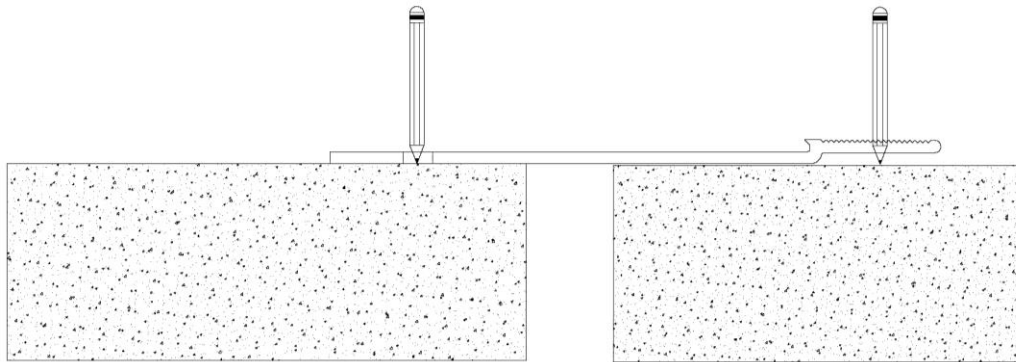

FIGURE 1
1. Position the cover plate over the expansion joint, making sure that the holes in the plate are at least 1-1/4" from the edge of the expansion joint. Mark hole locations and mark 5/8" in from the end of the non-anchored side of the plate. This marks the end of the finished floor on that side of the expansion joint. Remove the plate and drill 1/4" holes for the supplied anchors. **See Figure 1.**